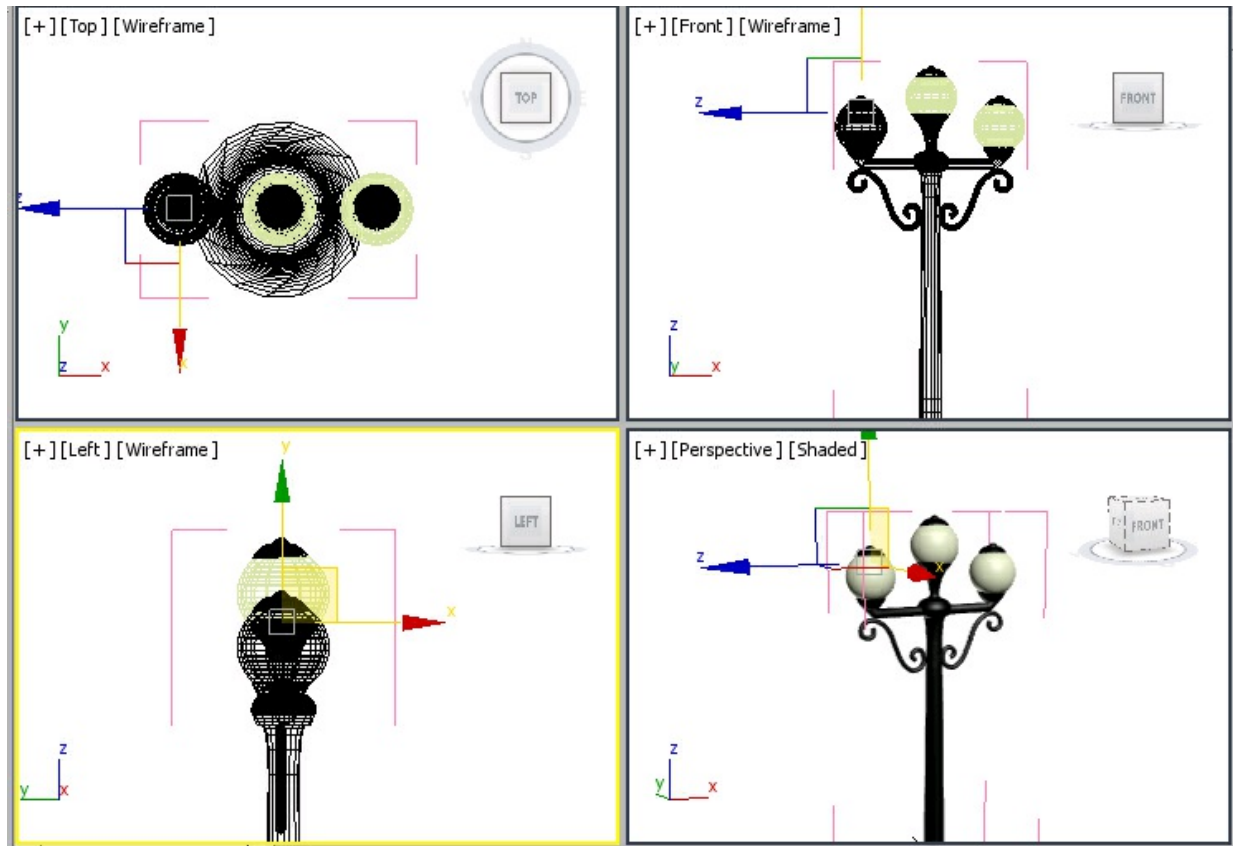

Figure 6-71 The lamp02 and lamp03 aligned in the viewports
9. Select *dome01*, *top01*, and *top02* from the Scene Explorer and group them as *lamp01*. Next, create 2 copies of *lamp01* with the name *lamp02* and *lamp03* and align them, as shown in Figure 6-71.